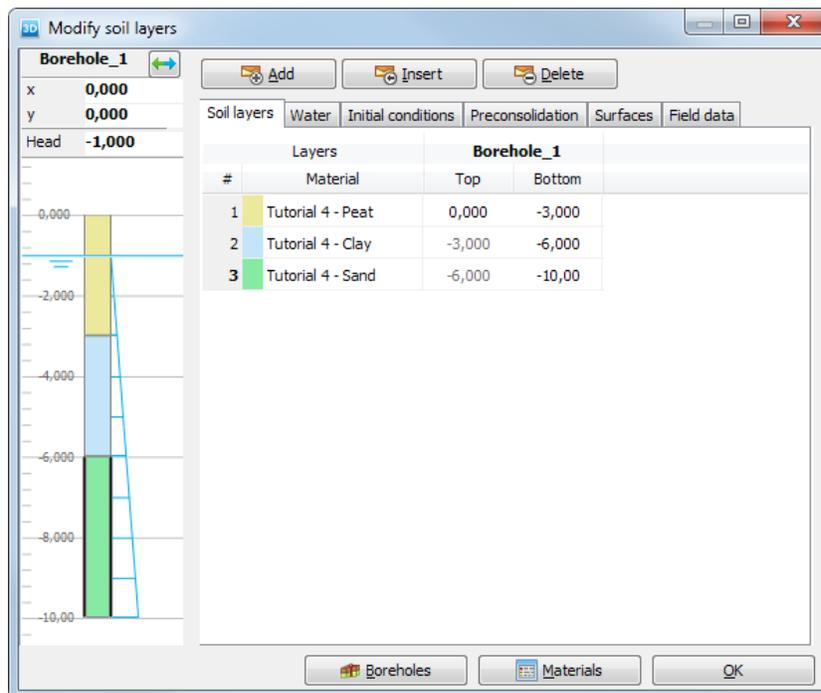

Figure 43: Soil layer distribution
2. Define three soil layers as shown in Figure 43: Soil layer distribution (on page 64).
2. Create soil material data sets according to Table 12: Material properties of the road embankment and subsoil (on page 65) and assign them to the corresponding layers in the borehole (Figure 43: Soil layer distribution (on page 64)).